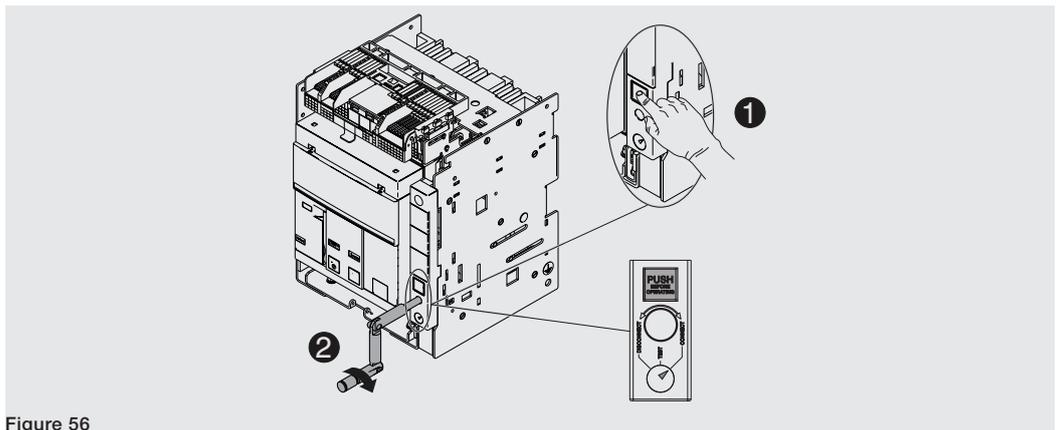

Figure 56
7. Press the lock button and then rotate the crank clockwise until the button comes out and the indicator shows that the circuit-breaker is in the **CONNECT** position. See Figure 56.